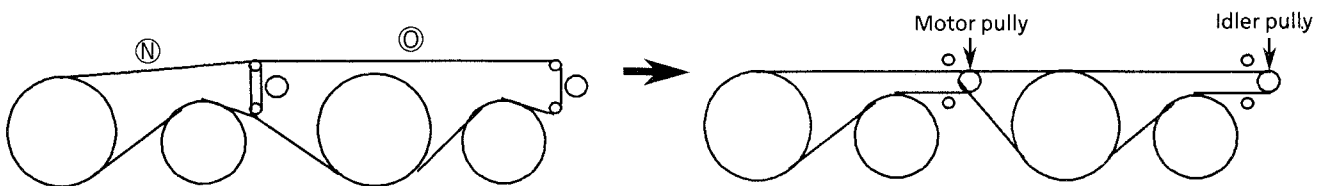

Fig. 10 How to put the belts
Install the flywheel and the belts to the mechanism as shown in fig. 10. (When putting the belts, put the belt (N) first.)